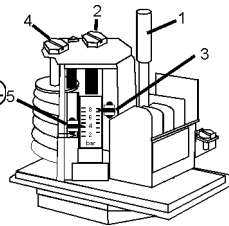

Fig. 2
Setting per Fig. 2:
- Version with manual reset (FF 4-.. DRH or DDH): Pressure decrease below upper or increase above lower switchpoint and reset button 1 (per Fig. 2) depressed.